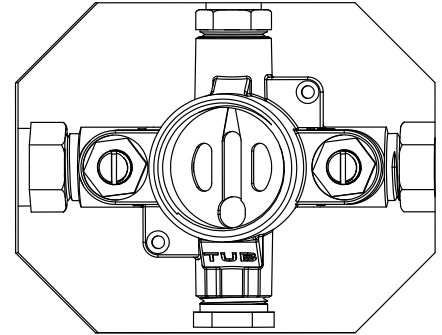

FIGURE 5
10. With valve stem **O-ring 10** assembled onto **valve stem 9**, slide **valve stem 9** onto cartridge stem while holding in place. See **Figure 5**.